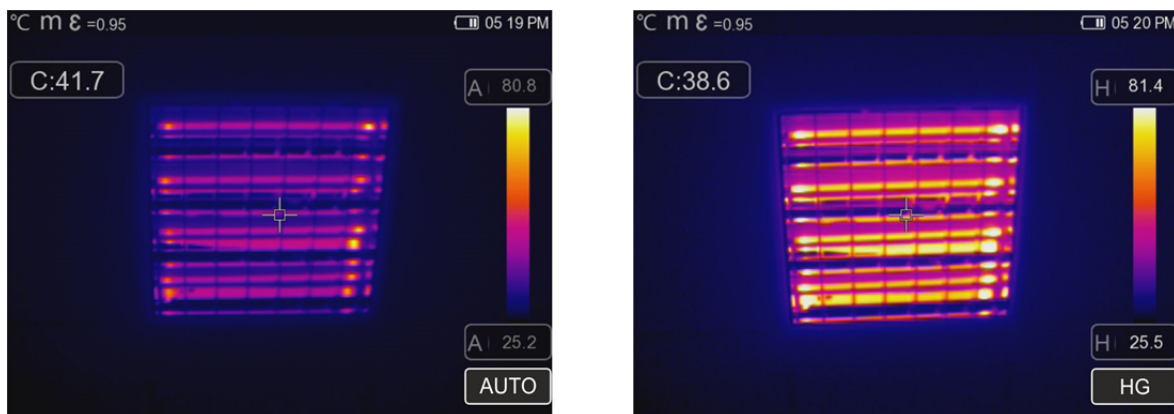

Fig. 45: Setting the Automatic and Histogram modes
- **Histogram (HG)** mode → the minimum and maximum temperature levels of the object framed on the display are always defined automatically by the instrument, as in the Auto mode, but in this case, the areas of the image in which temperature values are very different from the values of adjacent areas are highlighted. The relationship between temperature and colour of the palette is **non-linear** according to a histogram algorithm. This mode emphasizes image display in very dark working environments.
1. Press key  or touch the icon “AUTO” found at the bottom on the right side of the display. The screens in Fig. 45 show the selection of modes “AUTO” and “HG”.